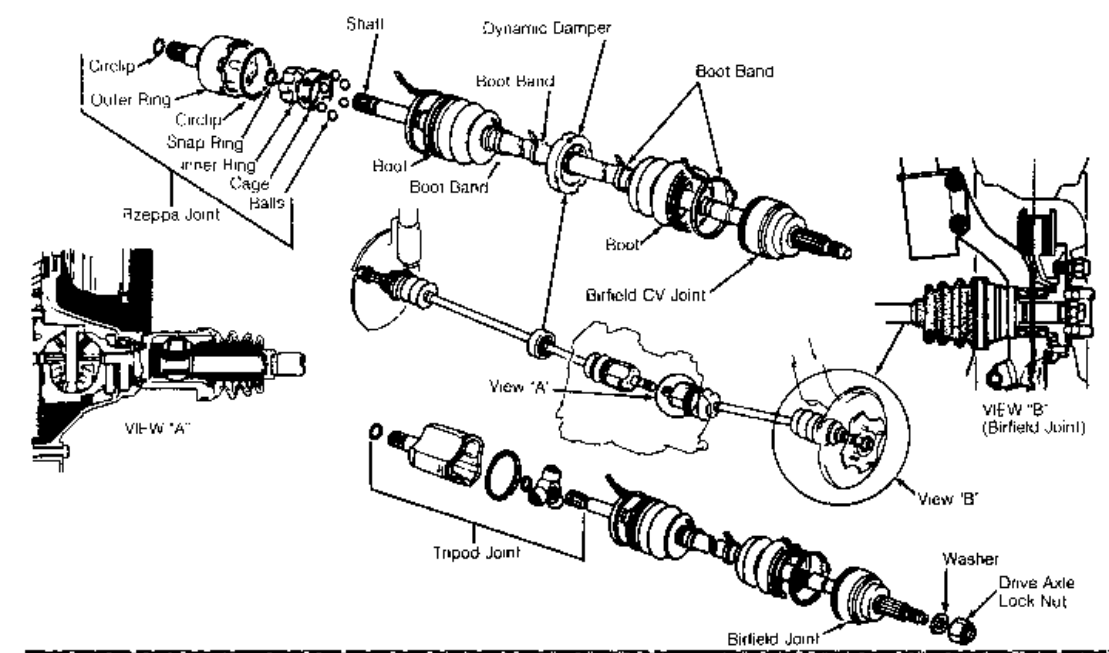

Fig. 2: Exploded View Of Axle Shafts & CV Joints
- 1. Label and remove CV joint boot. Mark alignment of axle shaft to outer race of CV joint. Remove circlip and outer bearing race housing. Mark alignment of inner race to shaft. Remove inner snap ring. Remove cage assembly. See Fig. 2 .
Remove boot clamp and boot. Paint an alignment mark of axle shaft to outer race of CV joint. Remove circlip and outer bearing race housing. Mark alignment of inner race to shaft. Remove snap ring and remove tripot assembly using a soft brass drift and hammer. See Fig. 2 .